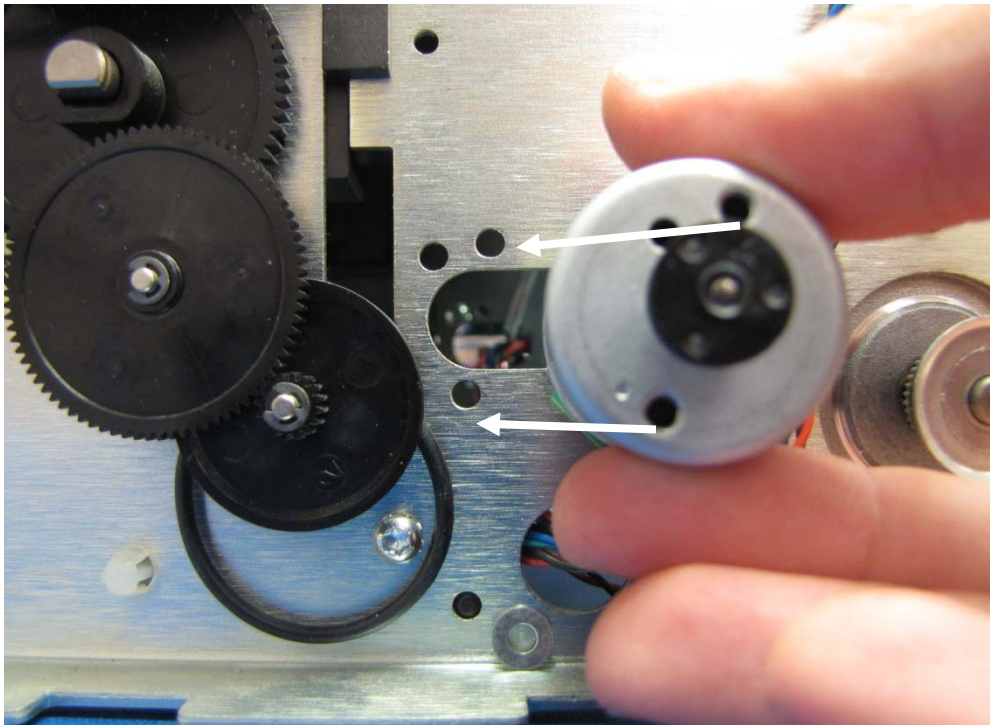

Figure 7
- 8) When installing the new head lift motor (33070584), the holes should line up as shown in figure 7.